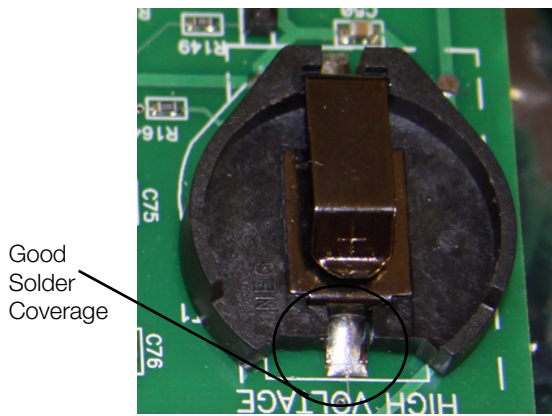
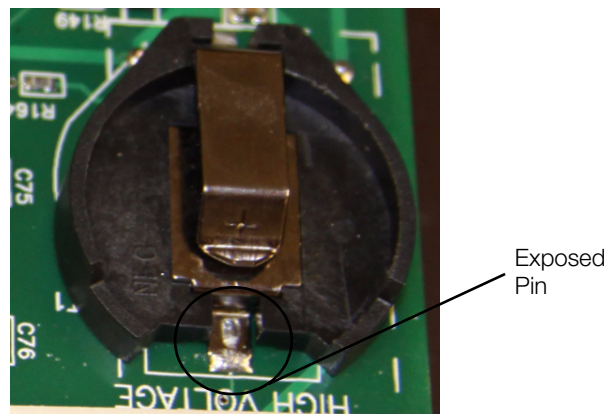

Figure 4. Desired solder applied to top battery pin
Figure 5. Inadequate solder covering on top battery pin
4. It may be necessary to remove the battery in order to inspect the top battery pin near the “HIGH VOLTAGE” wording on the board (see Figure 4 and Figure 5 on page 2).